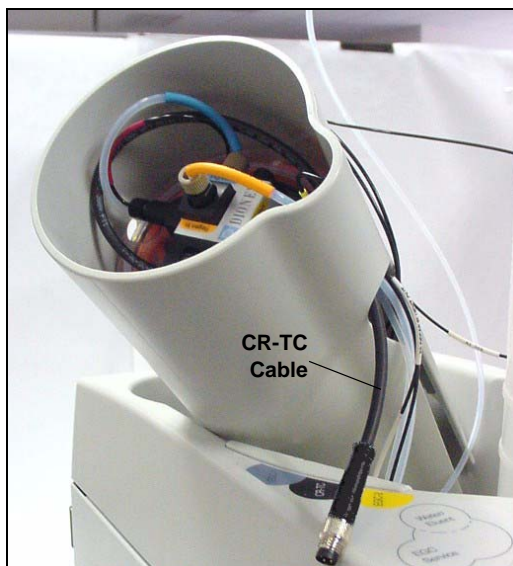

Figure 5-56. CR-TC Cable
11. Feed the CR-TC cable through the slot on the side of the EGC holder (see Figure 5-56).